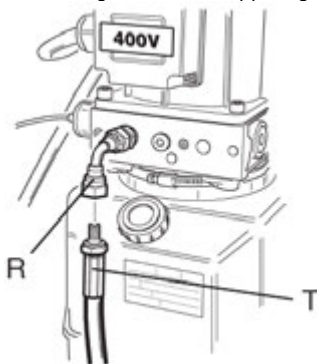

Fig.12
**AANSLUITEN HYDRAULIEK (FIG.12)**